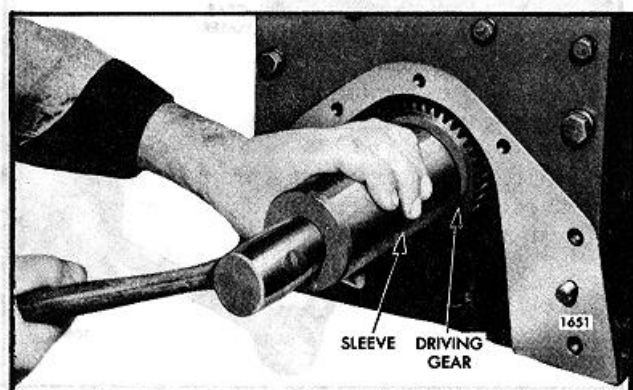

Fig. 9 - Installing Oil Pump Driving Gear on Crankshaft.
2. Position the gear (80) so the chamfer on the gear hub is toward the main bearing cap and start the gear on the shaft and over the key.
3. Slide the gear on the crankshaft or use a sleeve if required, as illustrated in Fig. 9, and drive the gear tight against the shoulder on the crankshaft.